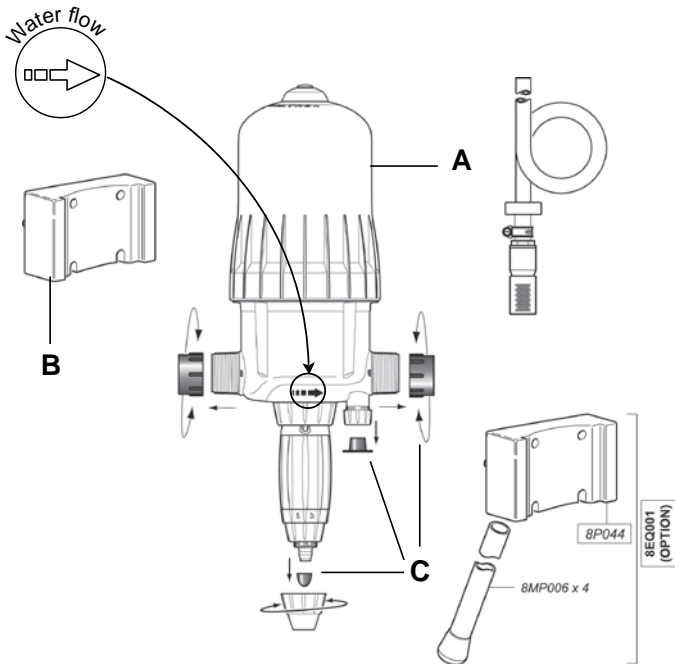

Fig. 1
- Slide the Dosatron's dove-tail fittings (**Fig. 1-A**) into the wall bracket (**Fig. 1-B**).
- Remove the plastic caps (**Fig. 1-C**) which block the inlet and outlet of your DOSATRON before connecting to the water supply.